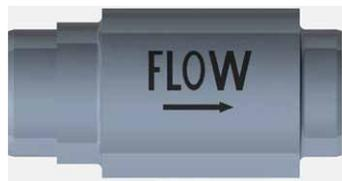
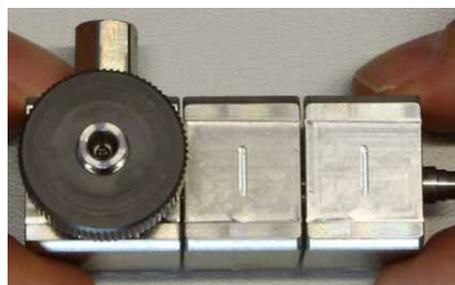

Fig. 61: Flow direction sign on check valve cartridge
Fig. 62: Stack of displacement chambers (notches pointing upward), valve cartridges, and purge unit
Verify that the valve cartridges are installed in the direction of flow. A flow direction sign on the check valve cartridges shows the correct orientation (→ Fig. 61). The displacement chambers should be positioned such that the small notches point upward and the bores for the guide bushings are on the same side as the pump outlet on the purge unit (→ Fig. 62).
6. Form a stack out of the purge unit, displacement chambers and valve cartridges (→ Fig. 62). The bores for the pistons and piston guide bushings should be on the same side as the pump outlet.